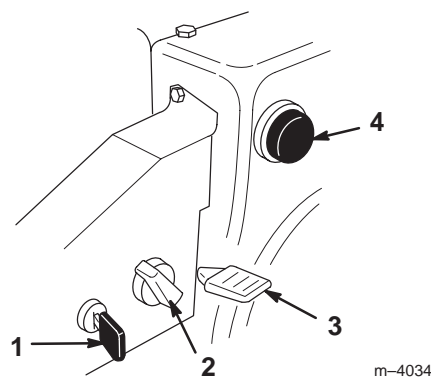

Figure 16
- **Ignition Switch** (Fig. 16)—Insert the key before starting the engine. To stop the engine, remove the key.
- **Choke** (Fig. 16)—Rotate the choke clockwise to the *On* position to start a cold engine. As engine warms up, gradually rotate the choke counterclockwise to the *Off* position.
- **Throttle** (Fig. 16)—Move the throttle upward to increase the engine speed; move it downward to decrease the engine speed. Move the throttle to the *Stop* position to stop the engine.
- **Primer** (Fig. 16)—Press the primer to pump a small amount of gasoline into the engine for improved cold-weather starting.
2. Remove the key from the ignition switch (Fig. 16).
3. Pull the choke knob off (Fig. 16).
5. Rotate the choke (Fig. 16) to the *On* position.
6. Insert the ignition key (Fig. 16).
7. Cover the hole in the center of the primer (Fig. 16) with your thumb and push in the primer 3 times, pausing a moment between pushes.
10. After the engine starts, immediately rotate the choke (Fig. 16) to the 3/4 position. As the engine warms up, rotate the choke to the 1/2 position. When the engine warms up sufficiently, rotate the choke to the *Off* position.